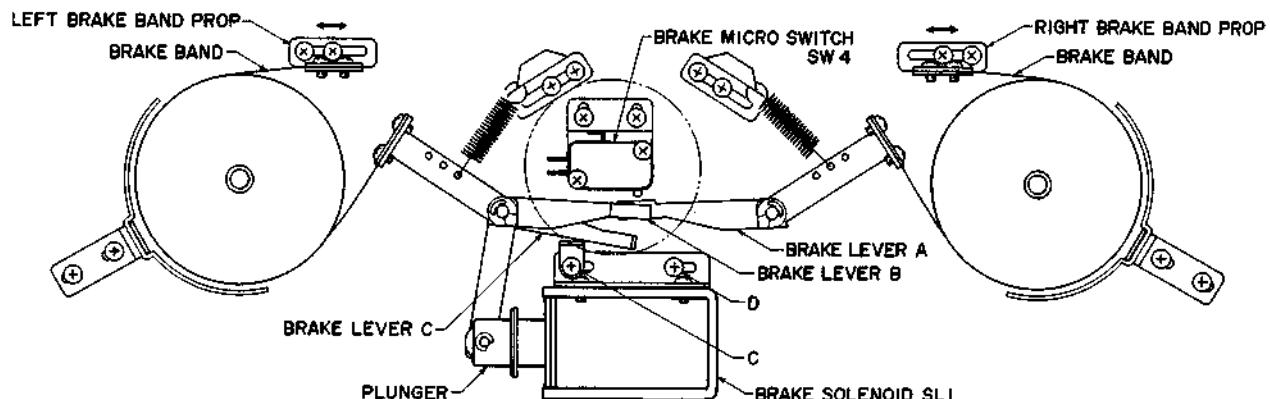
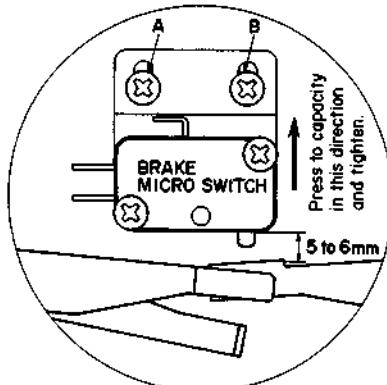

Fig. 5
Fig. 6
- 1) As shown in Fig. 6, press brake micro switch as far as it will go toward the top of the mechanical frame, and tighten screws A and B.
- 2) Move the Right Brake And Prop shown in Fig. 5 so that the gap between Brake Lever A and the body of Brake Micro Switch is 5 to 6mm (See Fig. 6).
- 3) Move the Left Brake Band Prop shown in Fig. 5 so that Brake Lever B and Brake Lever A are simultaneously operated by Brake Lever C.